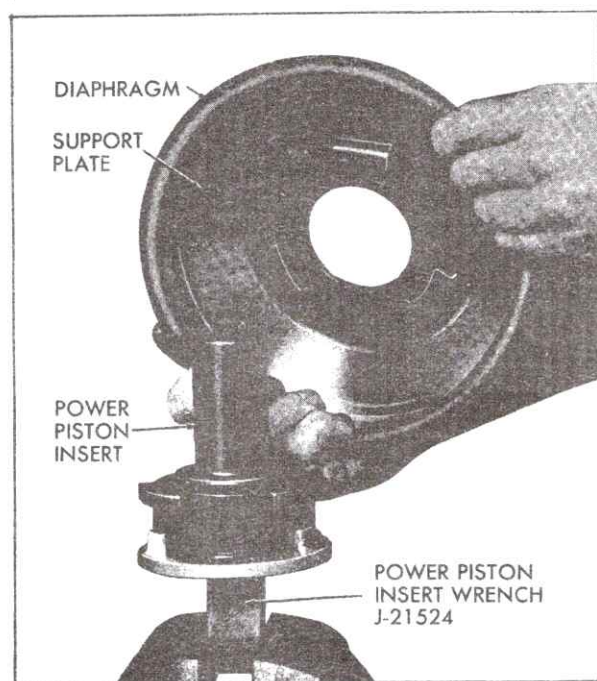

Fig. 5-16 Removing Power Piston Insert
19. Place square shank of Power Piston Insert Wrench, J-21524, in vise and position power piston assembly on wrench so that the three notches in the power piston housing fit over the ears of the tool, Fig. 5-16.
20. Rotate support plate counterclockwise until support plate separates from power piston insert, Fig. 5-16.